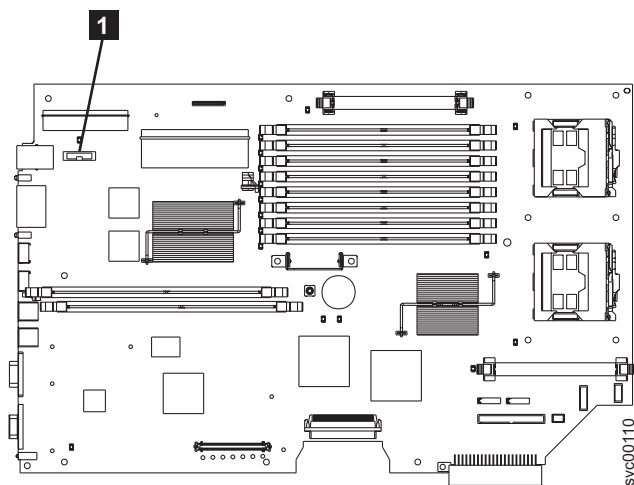

Figure 139. Location of the CMOS battery on the SAN Volume Controller 2145-8F2 or the SAN Volume Controller 2145-8F4
5. Locate the battery **1** on the system board. Figure 139 shows the location of the battery.